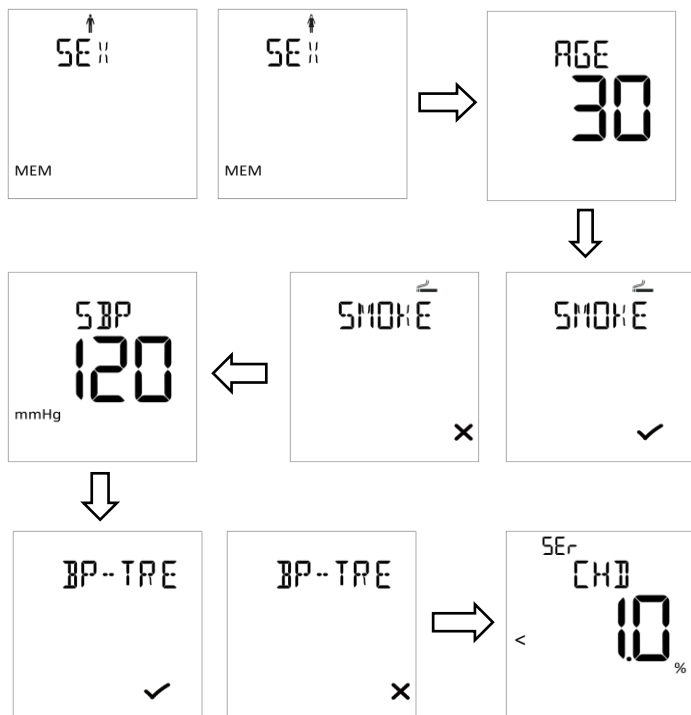

Fig 5.51
- FRA method: sex (Woman or Man), age, smoking status (✕ or ✓), systolic blood pressure and whether to treat hypertension (✕ or ✓) should be confirmed, after sequential selection, the assessment of CHD result is displayed (Ref Fig 5.51).